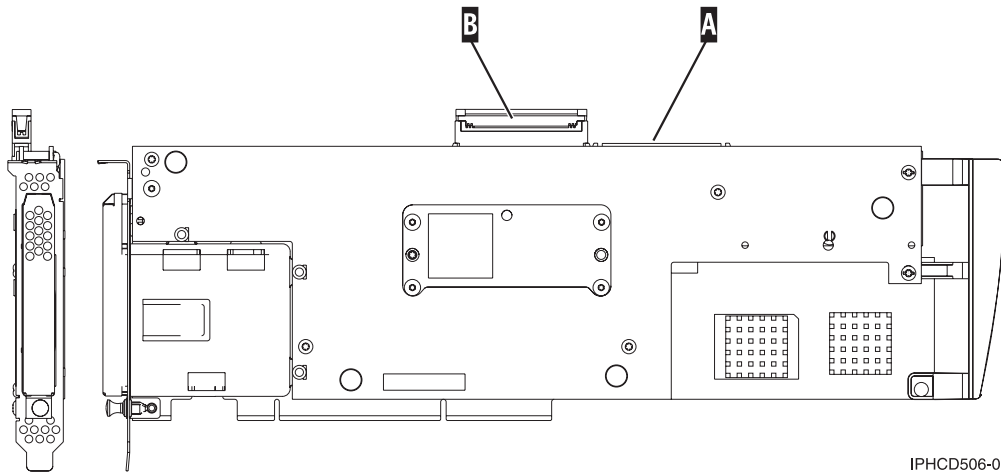

Figure 51. 5708, auxiliary-write cache IOA
2. Attach the cable to SCSI port A on the auxiliary-write cache adapter. See Figure 51 on page 167.